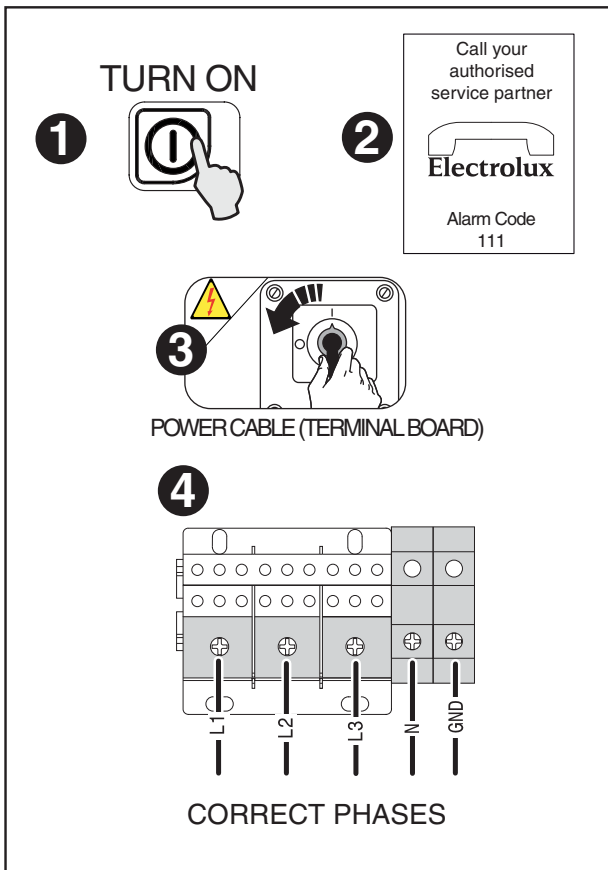

Figure 33 Starting with alarm 111
- The display shows the frames “2” and “3” in sequence (Figure 33).
- If the display shows “ALARM 111” (point “2” - Figure 33), the phase sequence of the incoming power feed wires at the machine terminal board isn’t correct.
- Switch off the main circuit breakers to turn off the power to the unit (point “3” - Figure 33).
- Correct the phase sequence of the incoming power feed wires at the machine terminal board (point “4” - Figure 33) and turn on the machine.